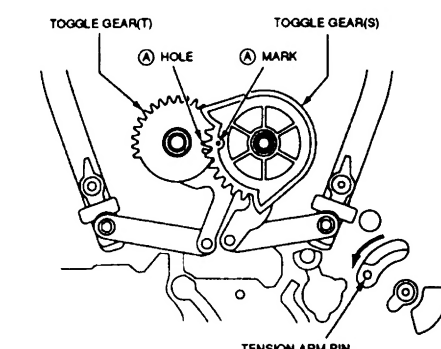

Fig 10.
- 1: Set the TOGGLE GEARS (T) and (S) to the unloaded position with your fingers. Align the (A) mark on the TOGGLE GEAR (S) with the (A) hole of the TOGGLE GEAR (T) as shown in Fig 10.